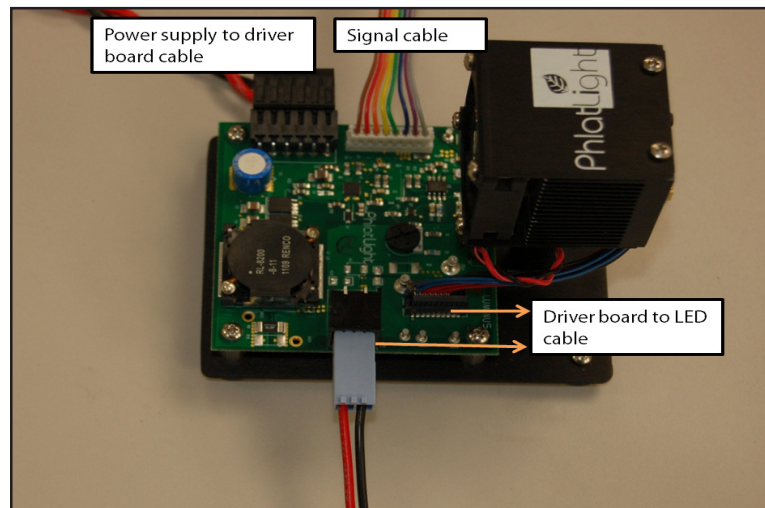

Figure 10: Completed electrical connections on DK-114N-1
2. Connect the driver board to the LED and the power supply using the cables provided in the kit. The choice of the driver board to LED cables is based on the LED connector— LEDs such as PT-39, PT-54 and CBT-40 require the appropriate variant of the shorter 3" cable while LEDs such as CBT-90, PT-120 and CBT-120 with the 2 pin spade connector require the longer cable. Figure 10 illustrates the electrical connections to the driver board; while both types of driver board to LED cables are shown for illustration, only one is required.